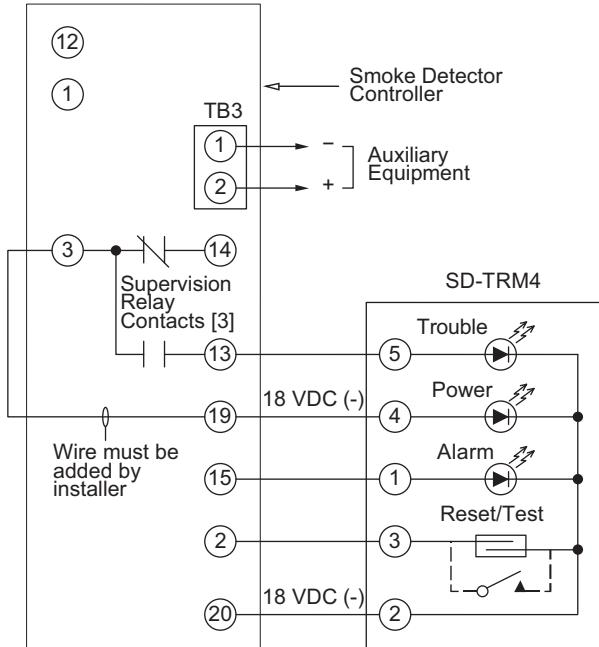

Fig. 44 – Remote Test/Reset Station Connections
The test/reset station dirty sensor test checks the test/reset station's ability to initiate a sensor dirty test and indicate the results. It must be wired to the controller as shown in Fig. 44 and configured to operate the controller's supervision relay. For more information, see "Dirty Sensor Test" on page 25.
1. Verify that the remote test/station is wired as shown in Fig. 44. Repair or replace loose or missing wiring.